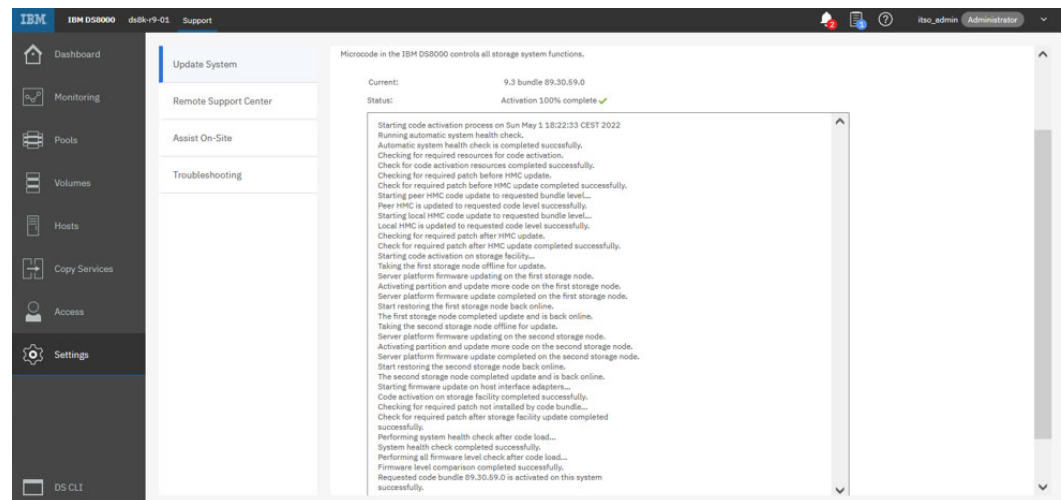

Figure 11-11 Code Activation Complete
6. The code activation progress can be tracked in the Storage Manager GUI until the end. After it completes, it displays a message confirming that the activation is complete (see Figure 11-11).
If there is any unexpected situation such as hardware failure or code upgrade failure during the process, the customer is notified in the window that is shown in Figure 11-11. There will be a case number in that notification, which can be used as a reference for when the client engages IBM Remote Support.